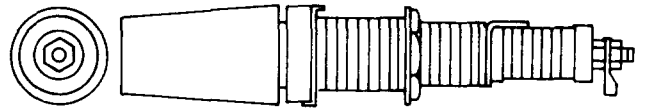

Fig. 18—399 Jack
**2.18 399:** This single-conductor jack (Fig. 18) is used with the 278A plug and is used on the No. 5 toll testboard. This jack is provided with a metallic guard to reduce current leakage between the current carrying member and the mounting surface. The exposed portion of the jack is provided with a removable dust cap.